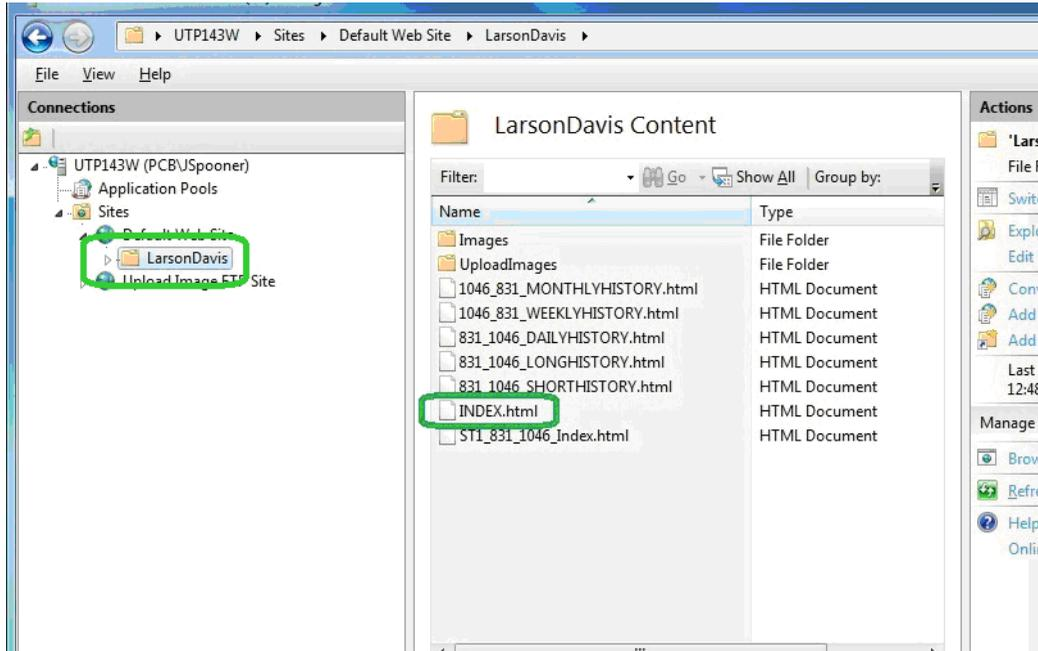

FIGURE 2-50 IIS Manager - Index.html Present
Step 6 Verify that the file **index.html** is located in the virtual directory, as shown in FIGURE 2-50. If not, run **ConfigurationTool.exe** again.